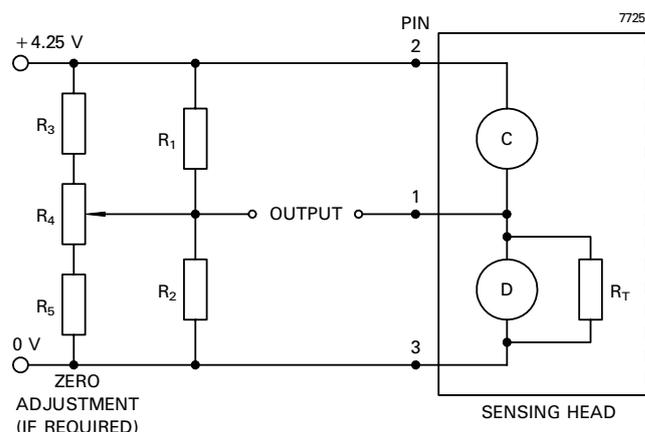

Fig. 1 Recommended circuit diagram
The information given below relates to the VQ49Z operating in the recommended circuit shown in Fig. 1. The instrument designer should always be aware that the mounting arrangement and circuitry employed within an instrument design will often profoundly modify the performance of any gas sensor.
1. The polarity of the supply voltage in the bridge circuit (Fig. 1) may be reversed without harm. The only effect is to reverse the polarity of the output signal.
5. The elements are supplied as a matched pair, complete with a trimming resistor of the correct value which is between 499 and 8200 Ω. The trimming resistor should be connected across the **detector** element as shown in the circuit Fig. 1.